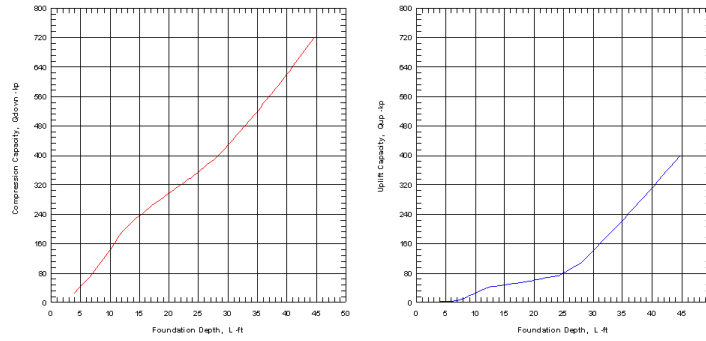

Figure 5-4. Capacity vs. Length
Press the [**Capacity – Length**] button to get the two diagrams shown on Figure 5-4. One is the downward capacity (Q_d) versus pile length (L). The other is the uplift capacity (Q_u) versus pile length (L). The start and end lengths can be specified in the two boxes below the button. Users can also choose to generate graphs for ultimate capacity or allowable capacity by checking the corresponding box below the button. The Factor of Safety can be defined on the advanced page.